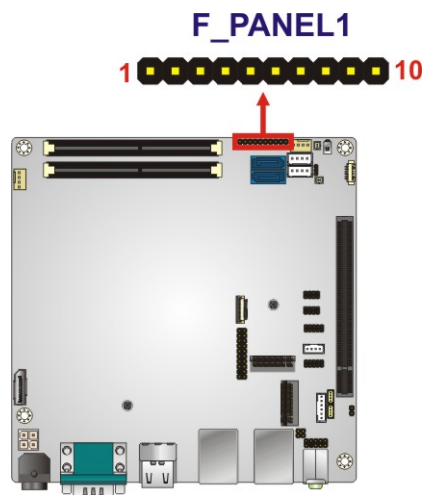

Figure 3-13: Front Panel Connector Location
- CN Location:** See **Figure 3-13**